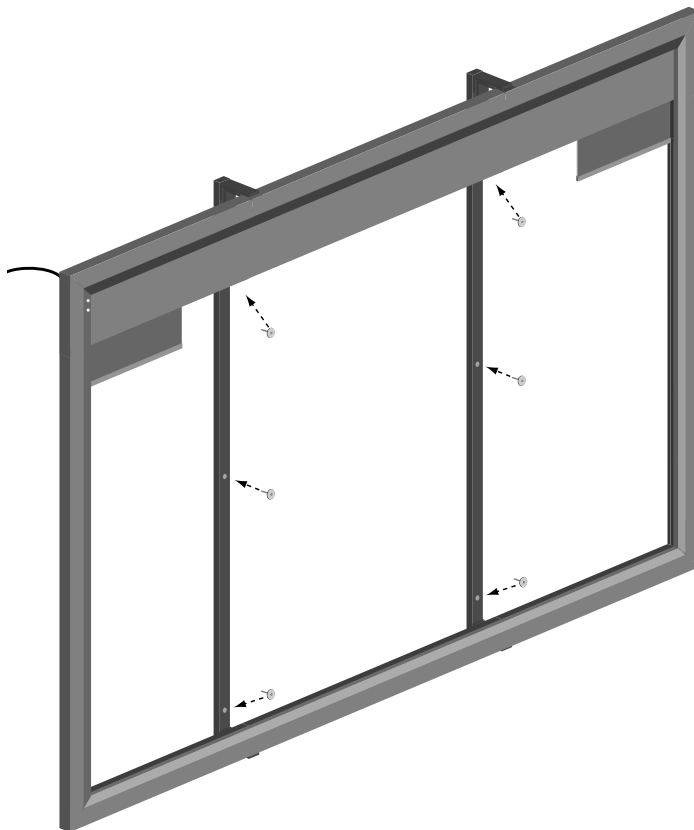

Figure 4: Measuring for the wall brackets
3. Mark the position of the bracket holes on the wall. See Figure 4.